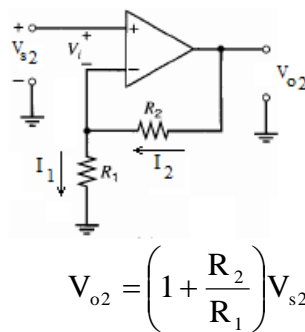

Fig. 23.
This is the relationship between the output voltage and the input voltage for an inverting amplifier build with an op amp. A similar calculation can be done for the noninverting amplifier build with an ideal op amp (Fig. 23). The same, for Fig. 23:
1. The output attempts to do whatever is necessary to make the voltage difference between the inputs zero (in Fig. 22 and Fig. 23,  $V_i = 0$ ).